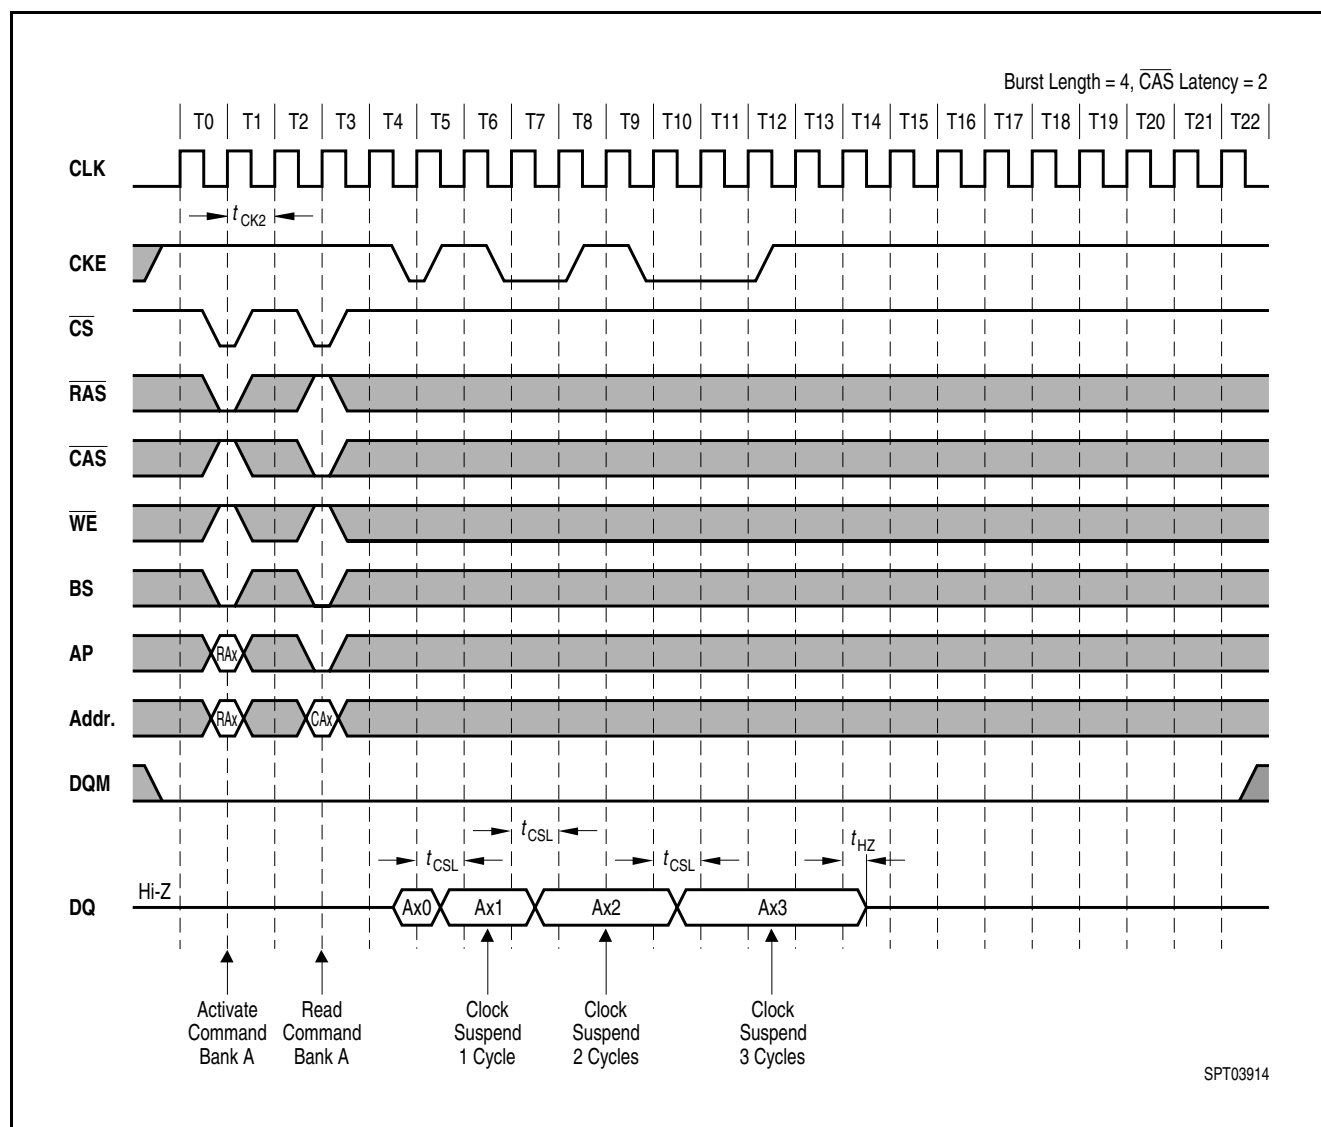

Figure 20 Clock Suspension During Burst Read CAS Latency = 2
- **Figure 20** Clock Suspension During Burst Read CAS Latency = 2